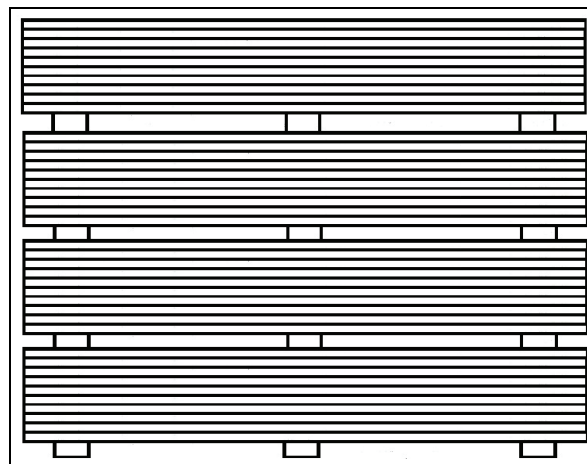

Figure 3-104. Pallets Stacked 40 High
5. Ensure personnel stack pallets 40 high with three pieces of dunnage between each group of ten pallets (see Figure 3-104).